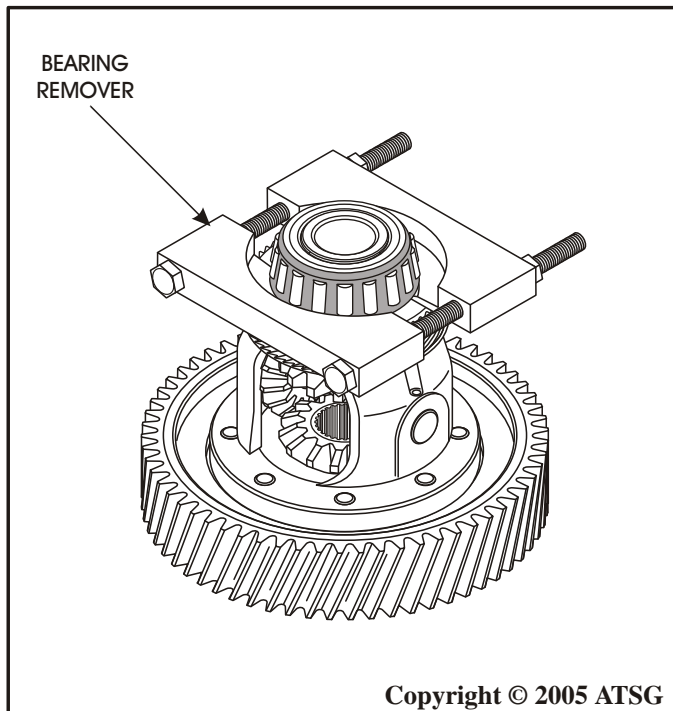

Figure 125
4. Remove the bearings using the split puller and the appropriate size general service gear puller as shown in Figure 125.